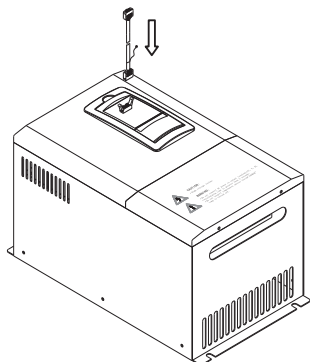

Fig. 3-14 Mounting Diagram for the operator panel and connecting wire of the inverter Model B
Step3. Insert the connection cable with the grounding-side into the slot of the interface board . (as shown in Figure 3-14).